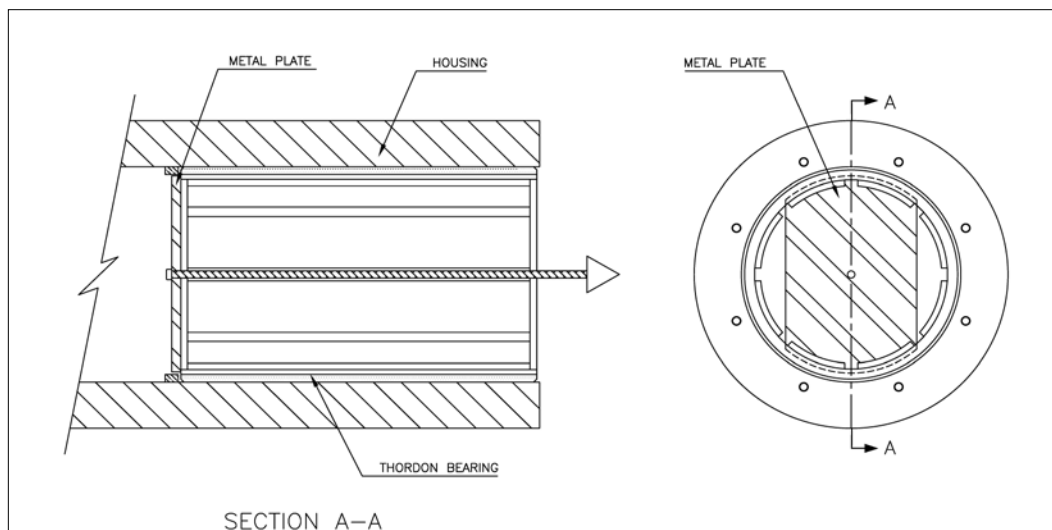

Figure 48: Technique For Removing Small Thordon Bearings
1. For smaller bearings it is often feasible to use a “come-along” to pull the bearings out. Fit a pulling plate behind the bearing to be removed and pull with a hydraulic jack. See Figure 48 below.